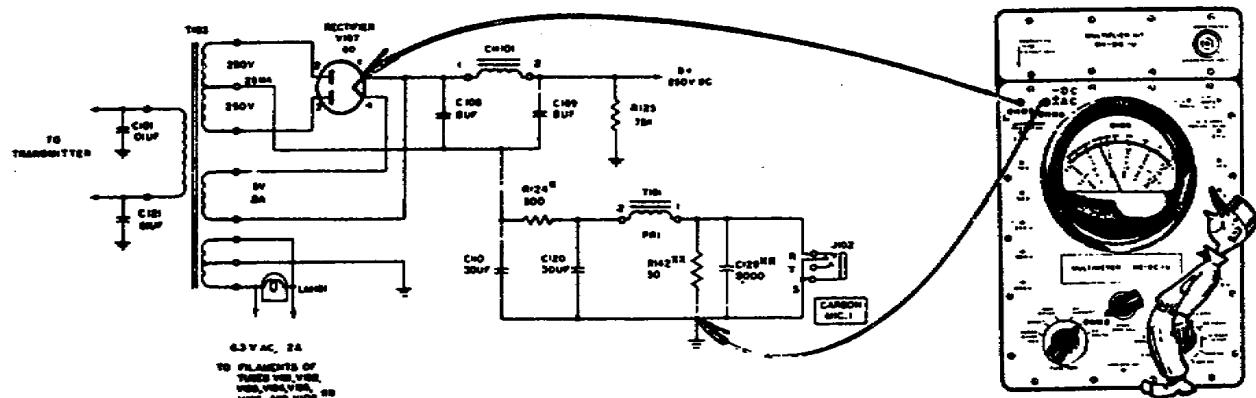

Figure 8. Making KEY CIRCUIT CHECK in a rectifier-type power supply.
Figure 8 is a schematic of a typical rectifier-type power supply. This one supplies energy to a speech amplifier that is used with a medium-power transmitter.
b. In the circuit shown in figure 8, the resistance check is made by measuring the resistance between pin 1 (or pin 4) and ground as shown by the meter connections. If the circuit is OK, the meter should indicate about 57,000 ohms.
(1) Bad rectifier tube.
(2) Open filter choke.
(3) Filter choke shorted or choke leads shorting to chassis.
(4) Open or shorted power transformer windings. In practically all cases, if the transformer windings are shorted, the line fuse will blow.
(5) Open filter capacitor. An open filter capacitor usually causes B-plus voltage to drop or an objectionable amount of ripple to appear in the B-plus voltage or both.